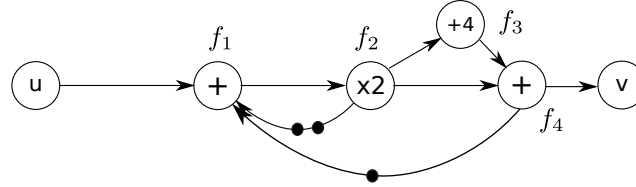

Figure 7: Marked graph  $G_M$
Consider the marked graph  $G_M$  in Figure 7. The nodes labeled with  $+$ ,  $\times 2$ ,  $+4$  represent addition, multiplication by 2, and addition with 4, respectively.  $f_1$ ,  $f_3$  and  $f_4$  need 1 time unit each,  $f_2$  needs 2 time units. The input  $u$  is a sequence of numbers, with  $u(k)$  representing the  $k$ -th number.
- (a) (7 points) Determine the output value  $v(k)$  corresponding to the graph in Figure 7 as a function of the input values  $u(\cdot)$  and previous output values  $v(\cdot)$ . Assume  $k > 2$ .